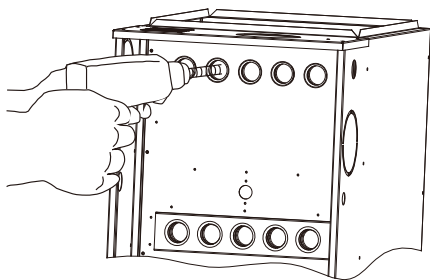

Fig. 14-3 Cleaning Heat Exchanger Cell
- (2.) Insert brush end of cable into the outlet opening of cell and slowly rotate with drill. DO NOT force cable. Gradually insert cable into upper pass of cell. (See Fig. 14-3.)